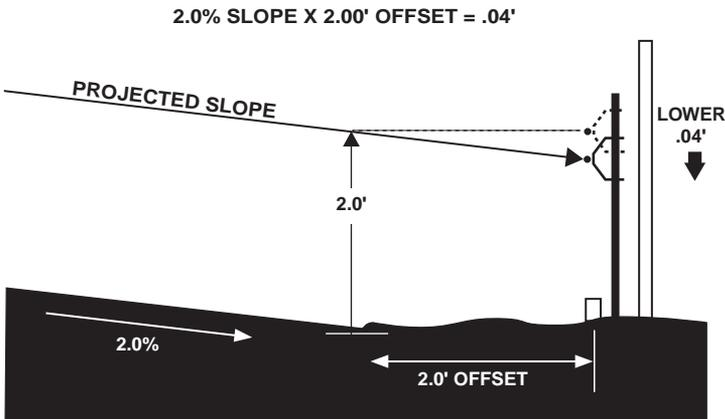

Figure 3-14. Lower Stringline: 2% Cross Slope with 2 Foot Offset
- If the road rises away from the stringline, the stringline will need to be lowered (Figure 3-14).